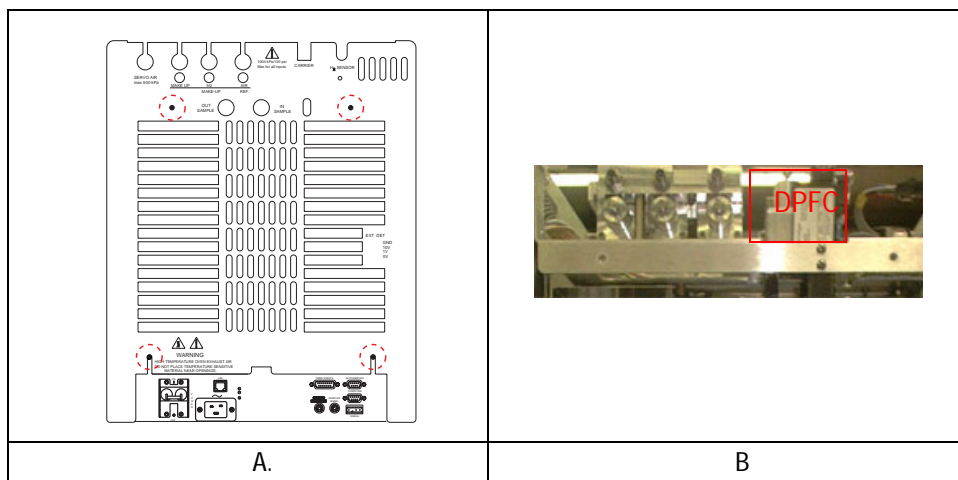

Figure 15-7. FOCUS GC Rear Panel
4. Unscrew the four Allen fixing screws, as shown in A of Figure 15-7 .
6. Identify the DPFC module. See B of Figure 15-7.